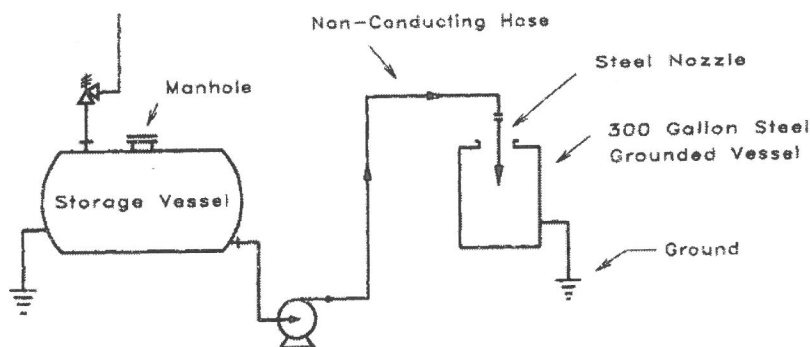

Figure 2 System for the above problem statement.
- Q. 3.1 Determine the voltage developed between a charging nozzle and a grounded tank, as shown in Figure 2. Also, compute the energy stored in the nozzle and the energy accumulated in the liquid. Explain the potential hazards in this process for a flow rate of 1 gpm. 5.0 (CO5,6)